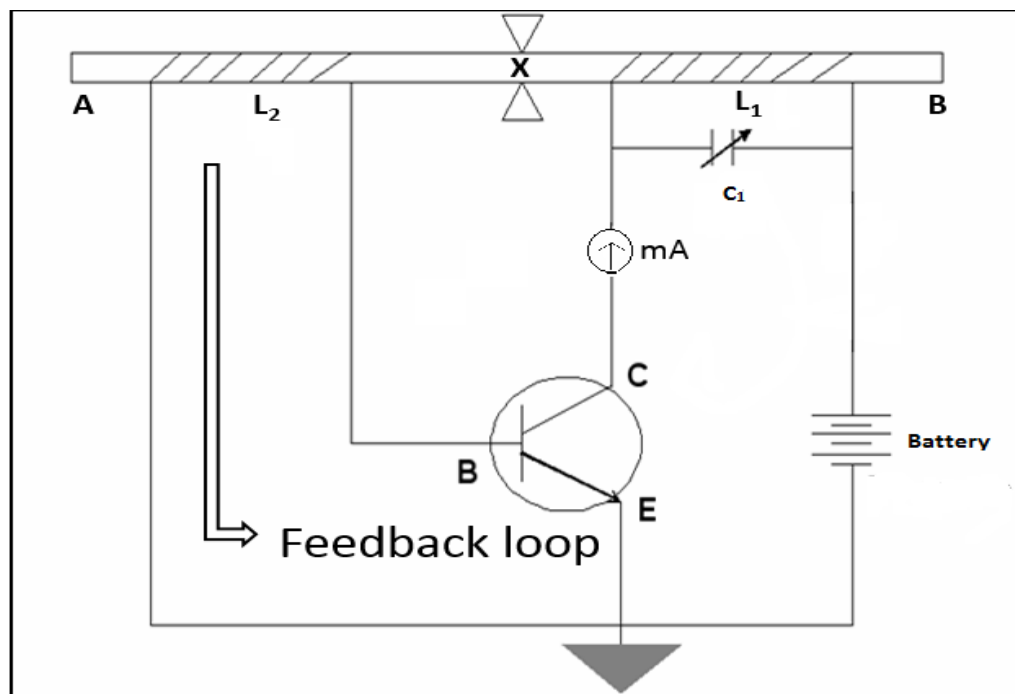

Figure 7 Magnetostriction Oscillator
- A ferromagnetic rod is fixed by clamps from its center. Two coils L_1 and L_2 are wound at two ends of rod AB as shown in figure 7.